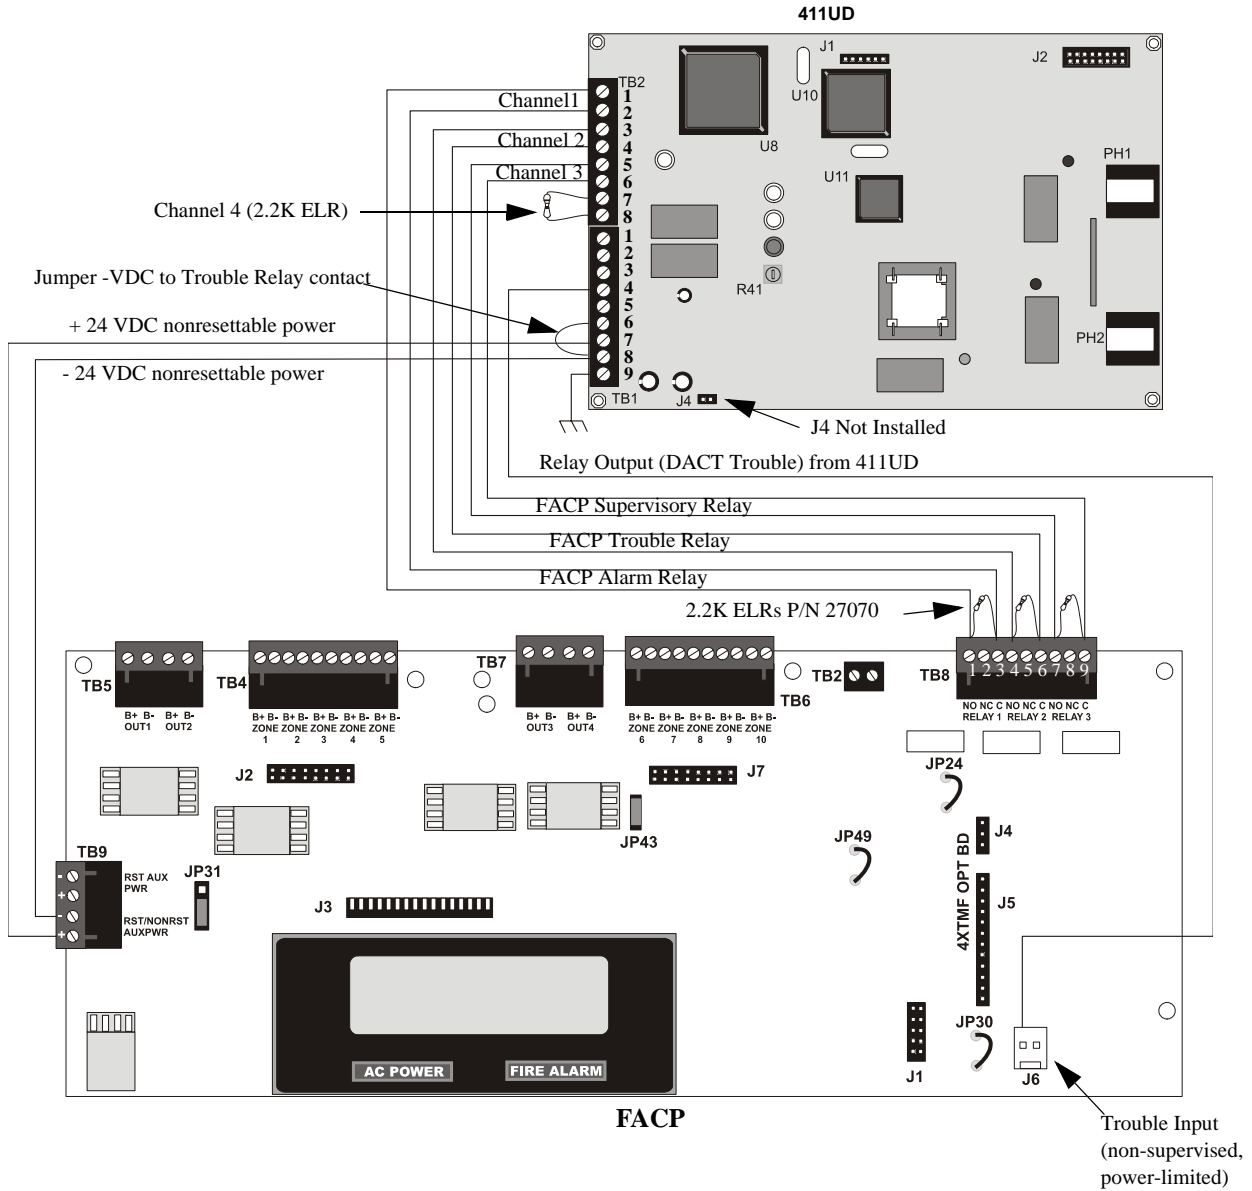

Figure B.1 MS-5UD/MS-10UD FACP Connection to 411UD
411UD may be installed as illustrated in Figure B.1, "MS-5UD/MS-10UD FACP Connection to 411UD," on page 143.
5. Any zone of the 411UD can be wired to function as alarm, trouble or supervisory. In Figure B.1 on page 143, Channel 1/Zone 1 is wired to the control panel's alarm relay, Channel 2/Zone 2 is wired to the control panel's trouble relay and Channel 3/Zone 3 is wired to the control panel's supervisory relay.